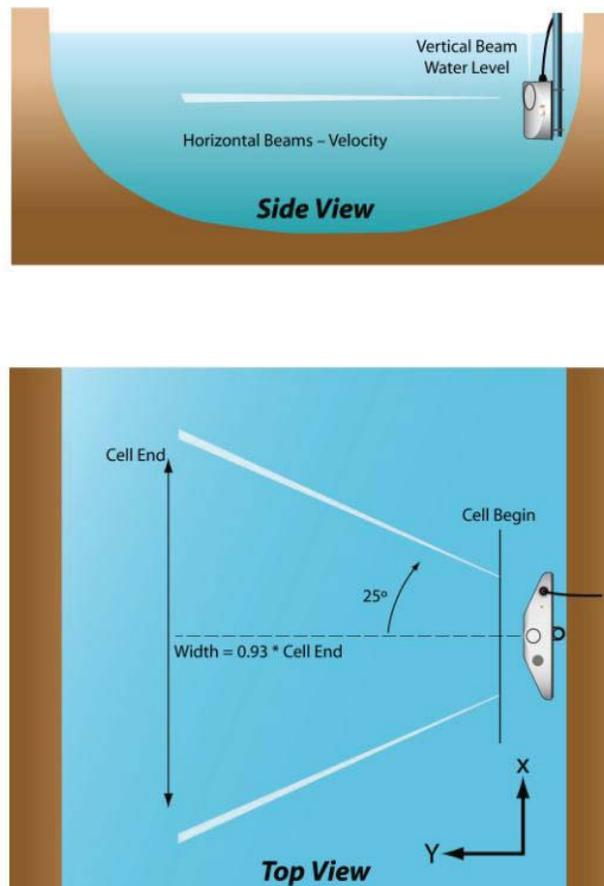

Figure 87. SL Beam Geometry
- The system uses two acoustic velocity beams in a single plane, each slanted 25° off the instrument axis. This beam geometry is designed for side-looking applications, giving the optimal balance between 2D velocity response and total measurement range (Figure 87).